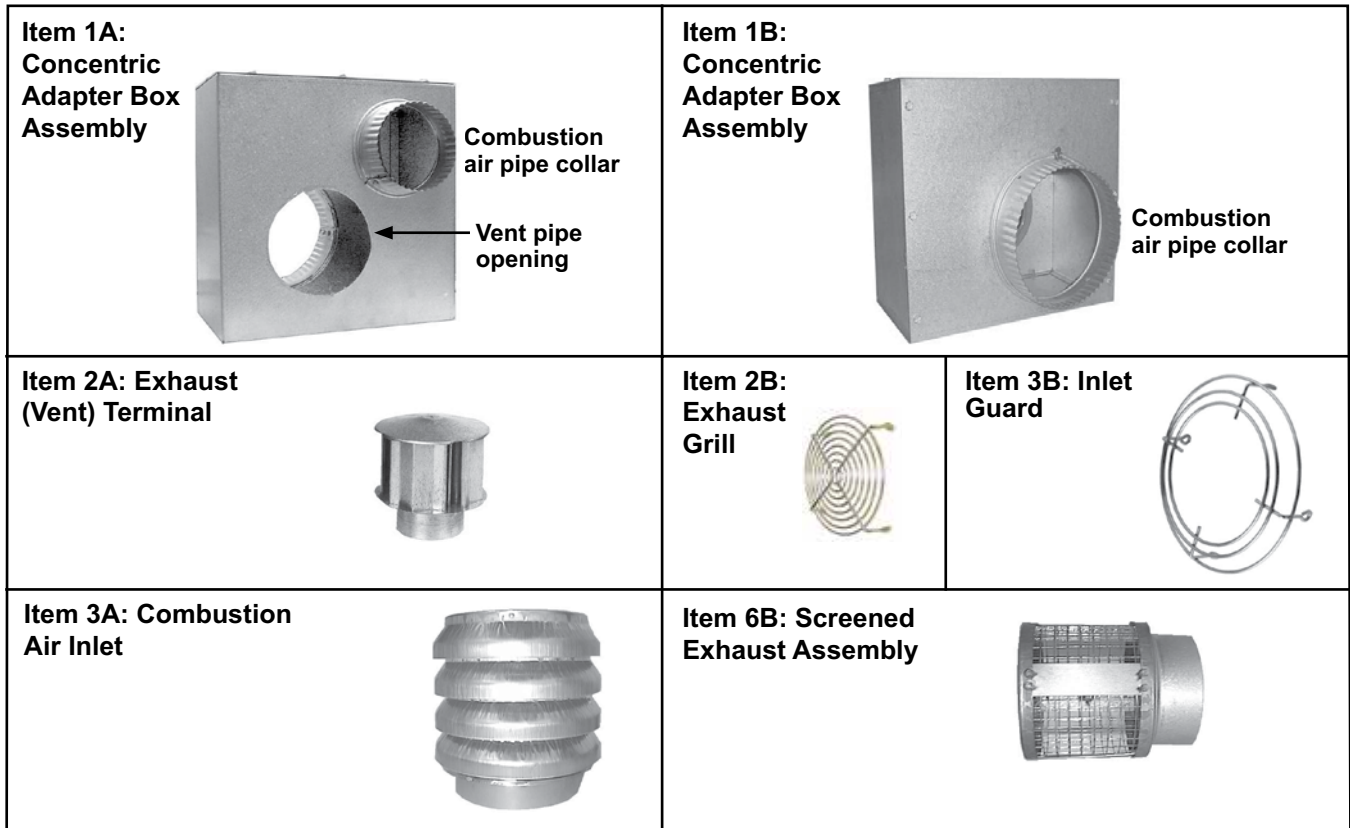

Figure 9. Venting and Combustion Air Kit Components (Refer to Table 21)
- There are three venting and combustion air kits. Kit components are shown in Figure 9 and listed in Table 21.
- The concentric adapter box assembly (item 1A) for the vertical vent terminal/combustion air package is configured with a collar and a vent pipe opening on the heater connection side. The collar is for connecting the combustion air pipe from the heater and the vent pipe opening is for the vent pipe to run through from the terminal and outside air pipe to connect to the vent run.
- The concentric adapter box assembly (item 1B) for the horizontal vent terminal/combustion air package is configured with a collar on the vent terminal connection side. The collar is for connecting the outside portion of the combustion air pipe. The vent pipe runs concentric through the outside portion of the combustion air pipe.